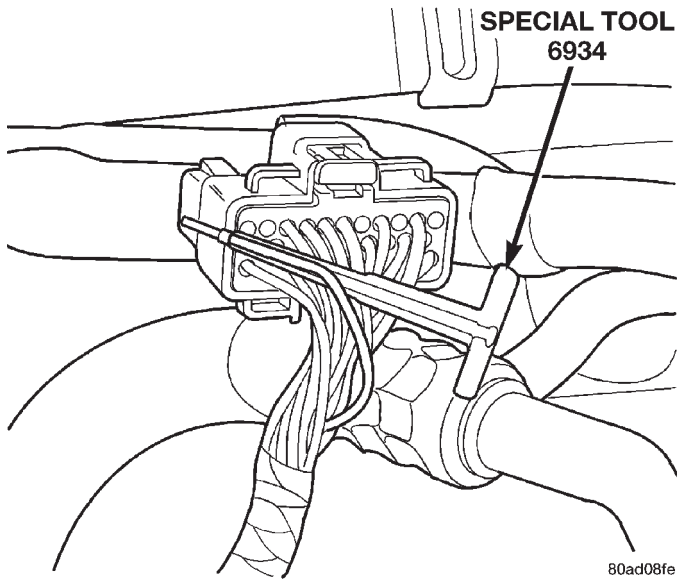
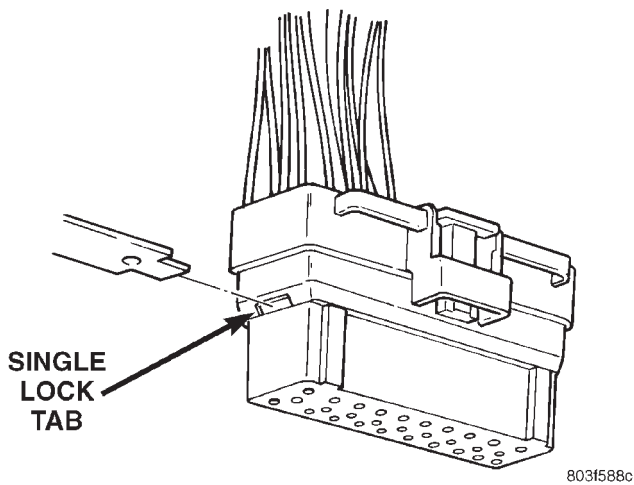

Fig. 13 Removing Wire Terminal
Fig. 14 Single Lock Tab
- (4) Insert the probe end of special tool 6934 into the back of the connector cavity (Fig. 13).
- (5) Grasp the wire and tool 6934 and slowly remove the wire and terminal from the connector.
- (6) Repair or replace the terminal.
- (7) Install the wire and terminal in the connector. Fully seat the terminal in the connector.
- (8) Push in the single lock tab on the side of the connector (Fig. 14).